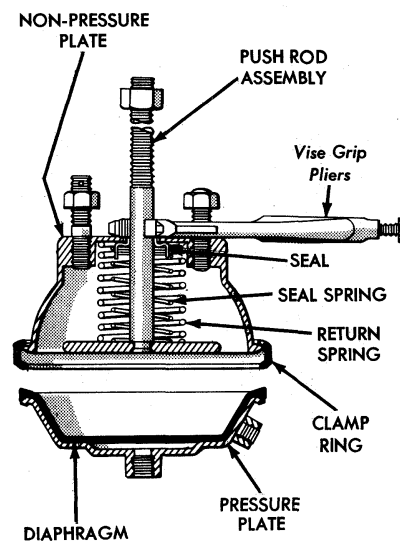

FIG. 21—Brake Chamber assembly
and clamp ring (Fig. 21). Clamp the push rod in this position by using a vise or vise grip pliers on the rod at the non-pressure plate.
2. Force the non-pressure plate half of the chamber down against the spring until it rests on the flat surface. While holding the non-pressure plate against the tension of the return spring, clamp the push rod at the non-pressure plate with vise grip pliers or a similar tool (Fig. 21).